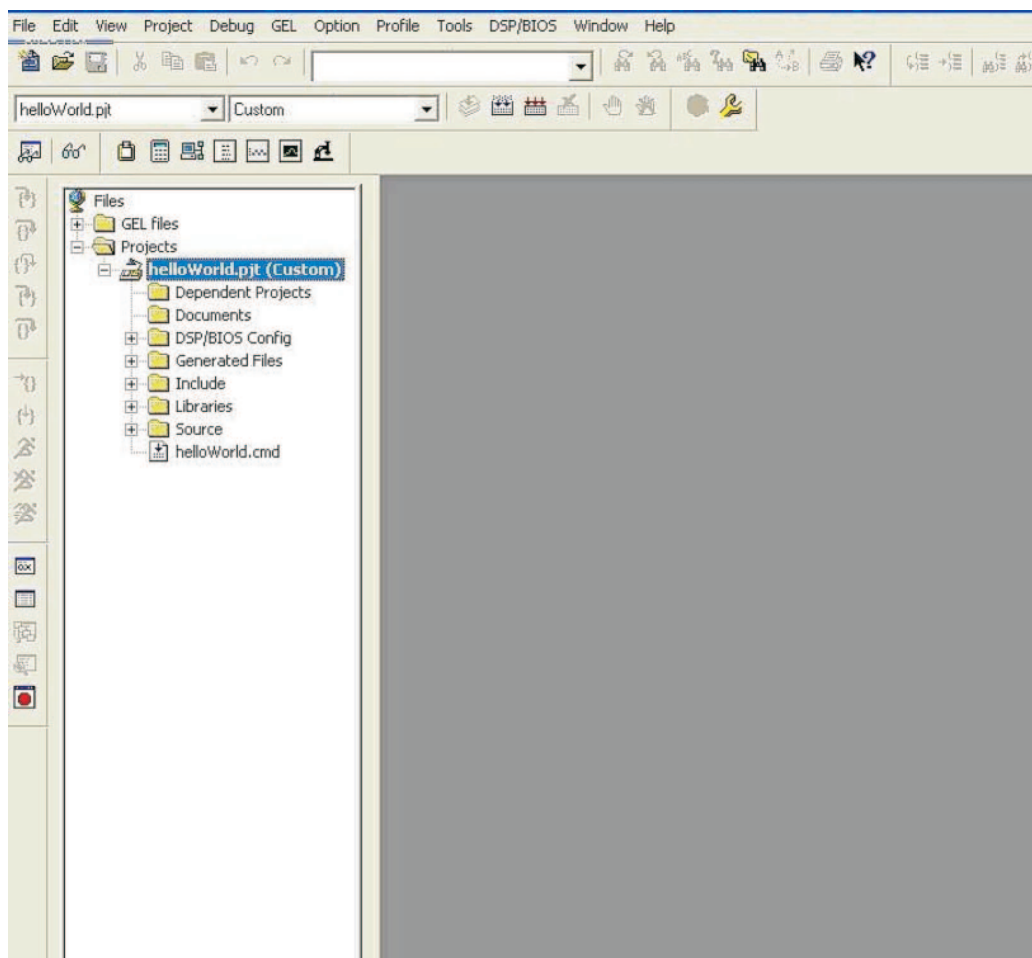

Figure 3. HelloWorld Project Open in Code Composer Studio Window
13. Click on Project → Open, once Code Composer Studio is open and ready to use. Browse to <NDK_INSTALL_DIR>/packages/ti/ndk/example/network/helloWorld/evmdm642> and choose the helloWorld.pjt. It should open up the project as shown in Figure 3: